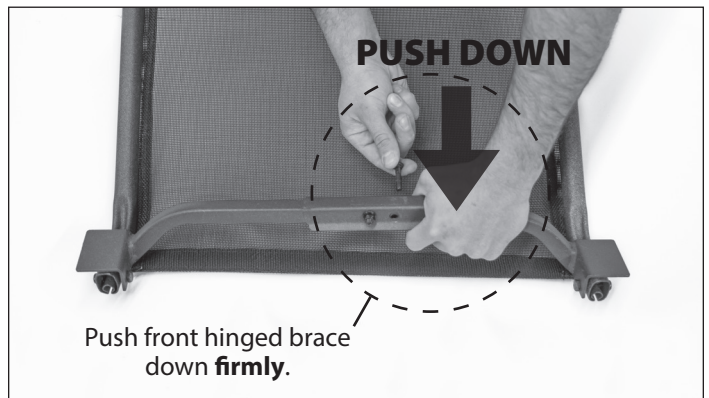

FIGURE 11 - Install previously removed bolt and locknut
h. Push down on the front hinged brace and install the previously removed bolt and locknut. **SEE FIGURE 11.**